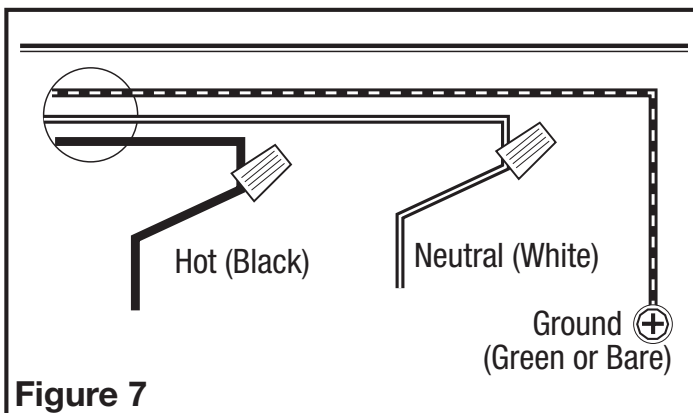

Figure 7
1. Connect the 1 loose Black wire from the range hood to the Black wire from the supply, and the 1 loose White wire from the range hood to the White wire of the supply. Connect the ground wire (green or bare) from the supply to the green ground wire of the hood. Use approved methods for all connections (Figure 7).